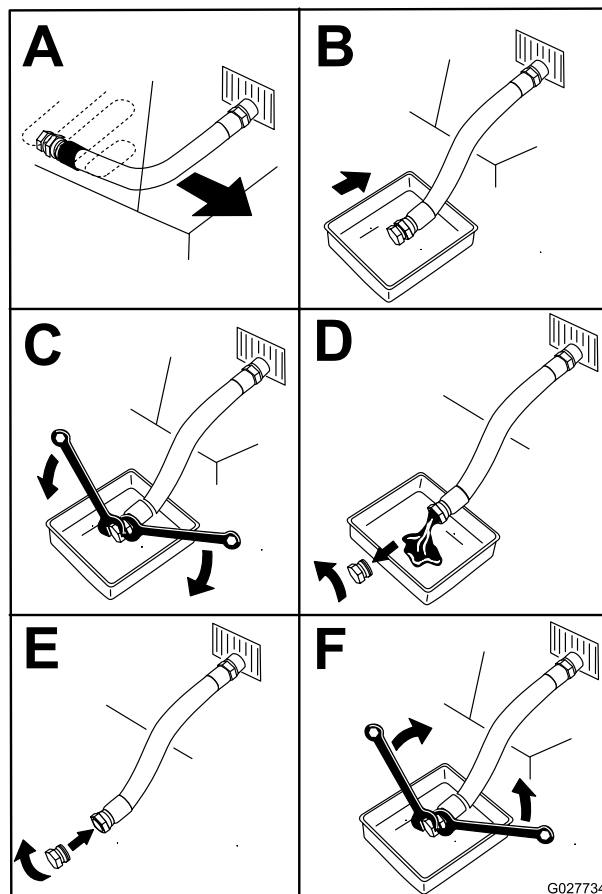

Figure 56
5. Drain the oil from the engine (Figure 56).